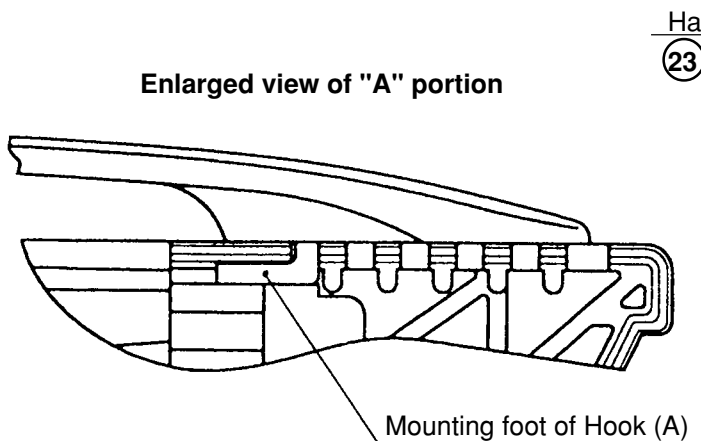

Fig. 6
- (1) Loosen the Screws (Plastic Tie) D4 x 25 **(27)** **[31]** **[31]** **<31>**, and remove the Grip Cover **(26)** **[30]** **[30]** **<30>**.
- (2) Loosen the Tapping Screws (W/Flange) D4 x 35 **(24)** **[28]** **[28]** **<28>**, Tapping Screw (W/Flange) D4 x 20 (Black) **(25)** **[29]** **[29]** **<29>**, and remove Handle (A) **(29)** **[33]** **[33]** **<33>**.
- (3) Insert the mounting foot of Hook (A) into the air vent of Handle (B) **(23)** **[27]** **[27]** **<27>** as shown in Figs. 6 and 7.
- (4) Mount Handle (A) **(29)** **[33]** **[33]** **<33>** and the Grip Cover **(26)** **[30]** **[30]** **<30>**.